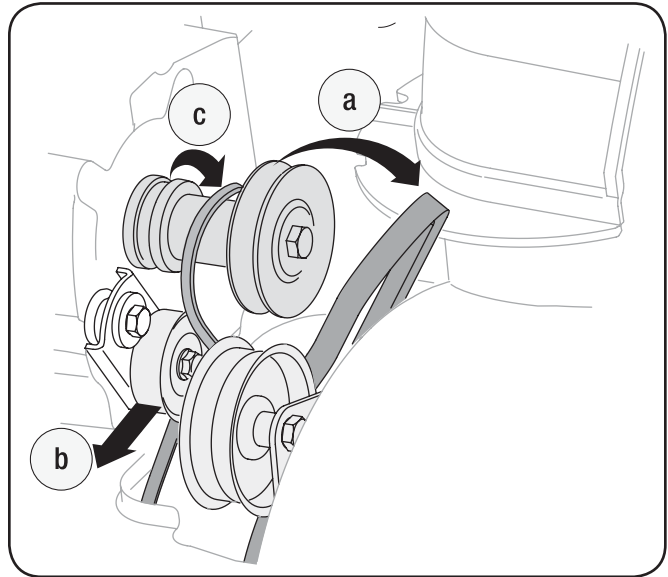

Figure 8-6
3. Remove the belt as follows. See Fig. 8-6.: